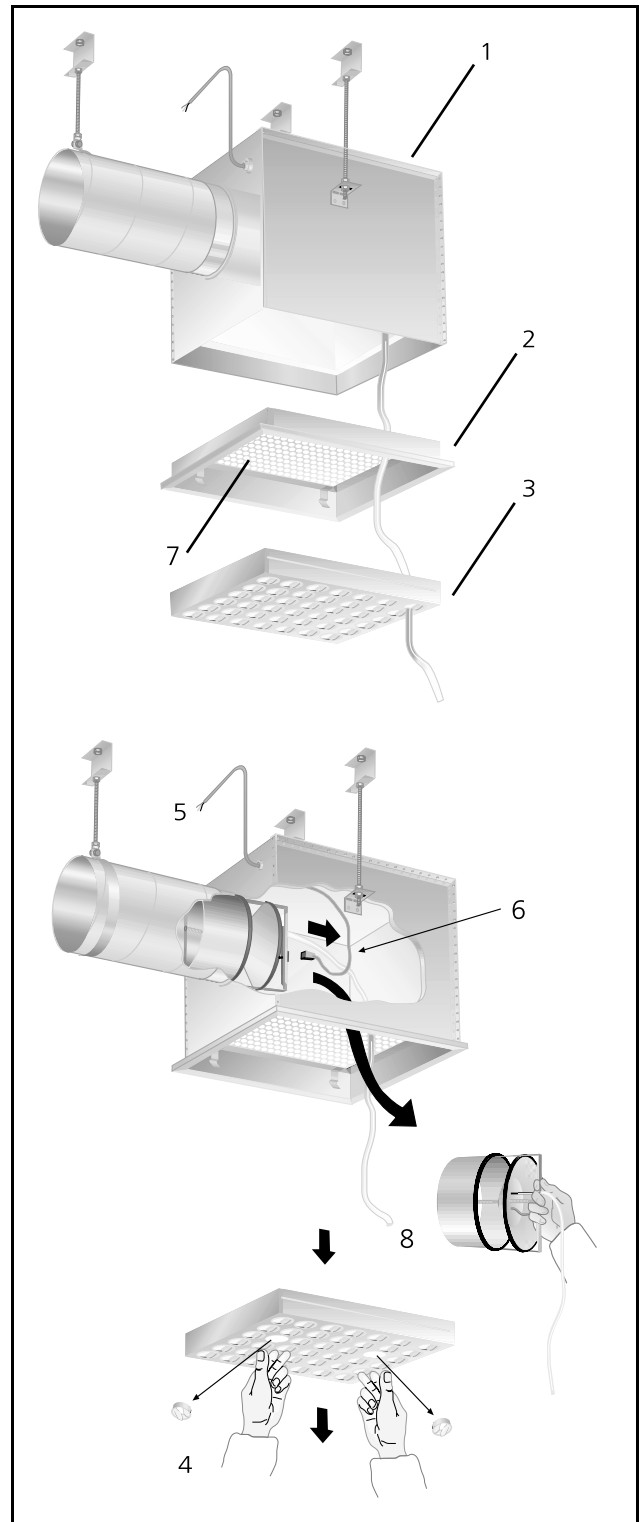

Figure 2. AKY + ALE 3.
**INSTALLATION (See figure 2)**
AKY + ALE 3 are normally preset via the room regulators at the factory. There is a test socket to manually measure the diffuser's current air flow rate, see figure 2 at (8). Via this it is possible using a pressure gauge, and a special k-factor diagram to show which trimming factor, also known as the k-factor, that should apply at respective damper settings (% open). The K-factor is then used in the formula  $q = k \times \sqrt{\Delta P_i}$  (l/s).
**NOTE! As the damper is electrically connected the quick connector located in the damper handle should be removed when dismantling the damper, see figure 2 at (6).**